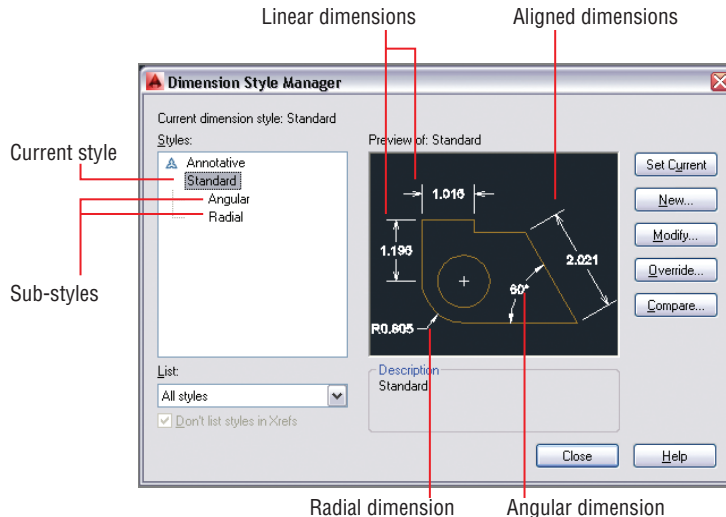

FIGURE 11.9 The preview image shows how different types of dimensions will appear when they are added to the drawing.
10. Select Standard in the styles list in the left pane of the Dimension Style Manager. The preview image now shows the cumulative effect of the style and its sub-styles: open arrowheads for linear and aligned dimensions and closed filled arrowheads for angular and radial dimensions (see Figure 11.9). Click Close.